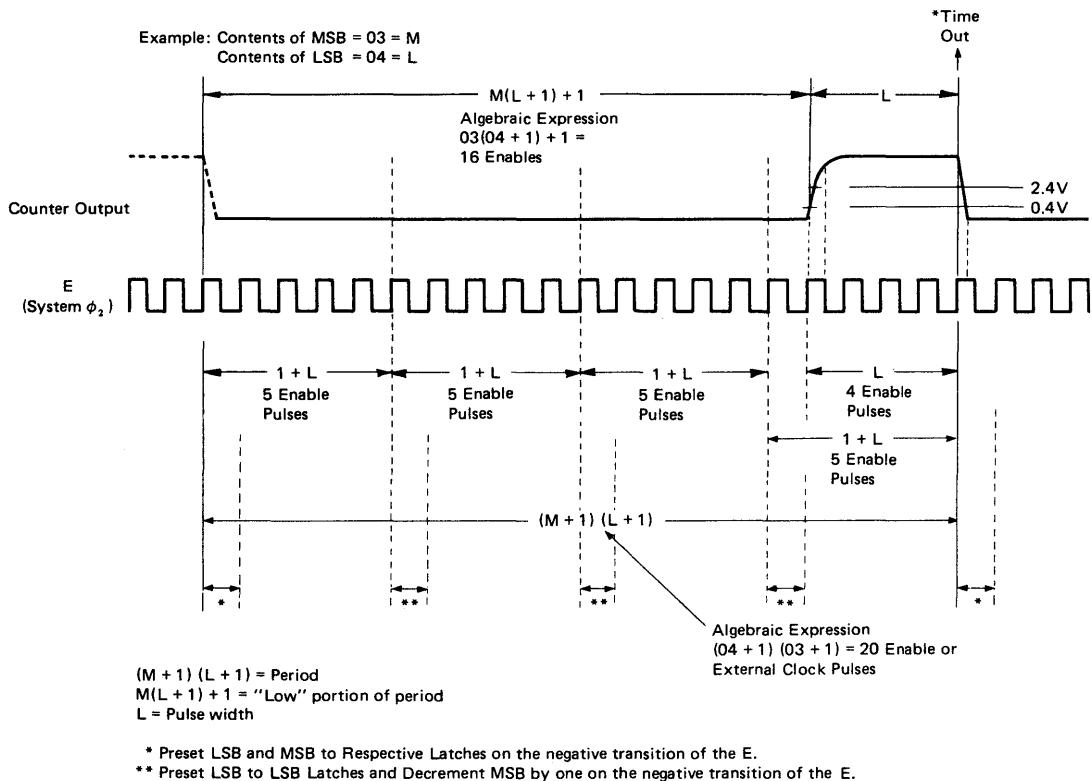

Figure 9 Timer Output Waveform Example
In the dual 8-bit mode (CRX2 = "1") [Refer to the example in Fig. 9] the MSB decrements once for every full countdown of the LSB + 1. When the LSB = "0", the
MSB is unchanged; on the next clock pulse the LSB is reset to the count in the LSB Latches and the MSB is decremented by 1 (one). The output, if enabled, remains "Low" during and after initialization and will remain "Low" until the counter MSB is all "0's. The output will go "High" at the beginning of the next clock pulse. The output remains "High" until both the LSB and MSB of the counter are all "0's. At the beginning of the next clock pulse the defined Time Out (TO) will occur and the output will go "Low". In the normal 16-bit mode the period of the output of the example in Fig. 9 would span 1546 clock pulses as opposed to the 20 clock pulses using the Dual 8-bit mode.